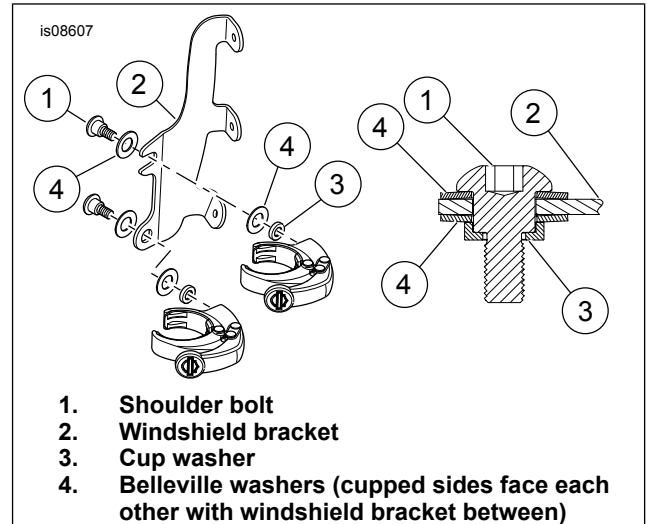

Figure 1. Windshield Mounting Clamp
2. See Figure 1. Loosely install clamp assemblies to the windshield mount brackets (2). Secure with shoulder bolt (1), Belleville washers (4) and cup washer as shown.